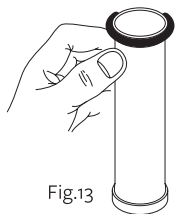

Fig.13
- Between finger and thumb, pinch the component and the sealing ring; push towards one side to remove the ring (Fig. 13);